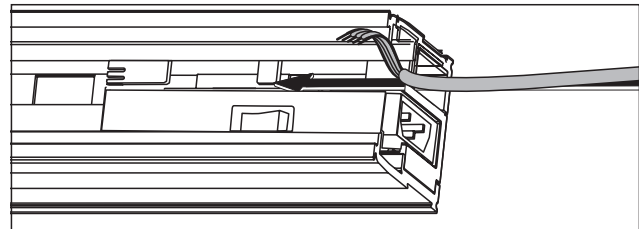
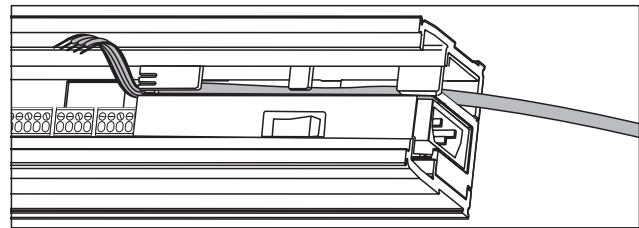

Fig. 52 Lay the supply lines in the cable duct
Fig. 54 Lay the supply lines in the cable duct
- Lay the supply lines in the cable duct (see Fig. 52 to Fig. 54).